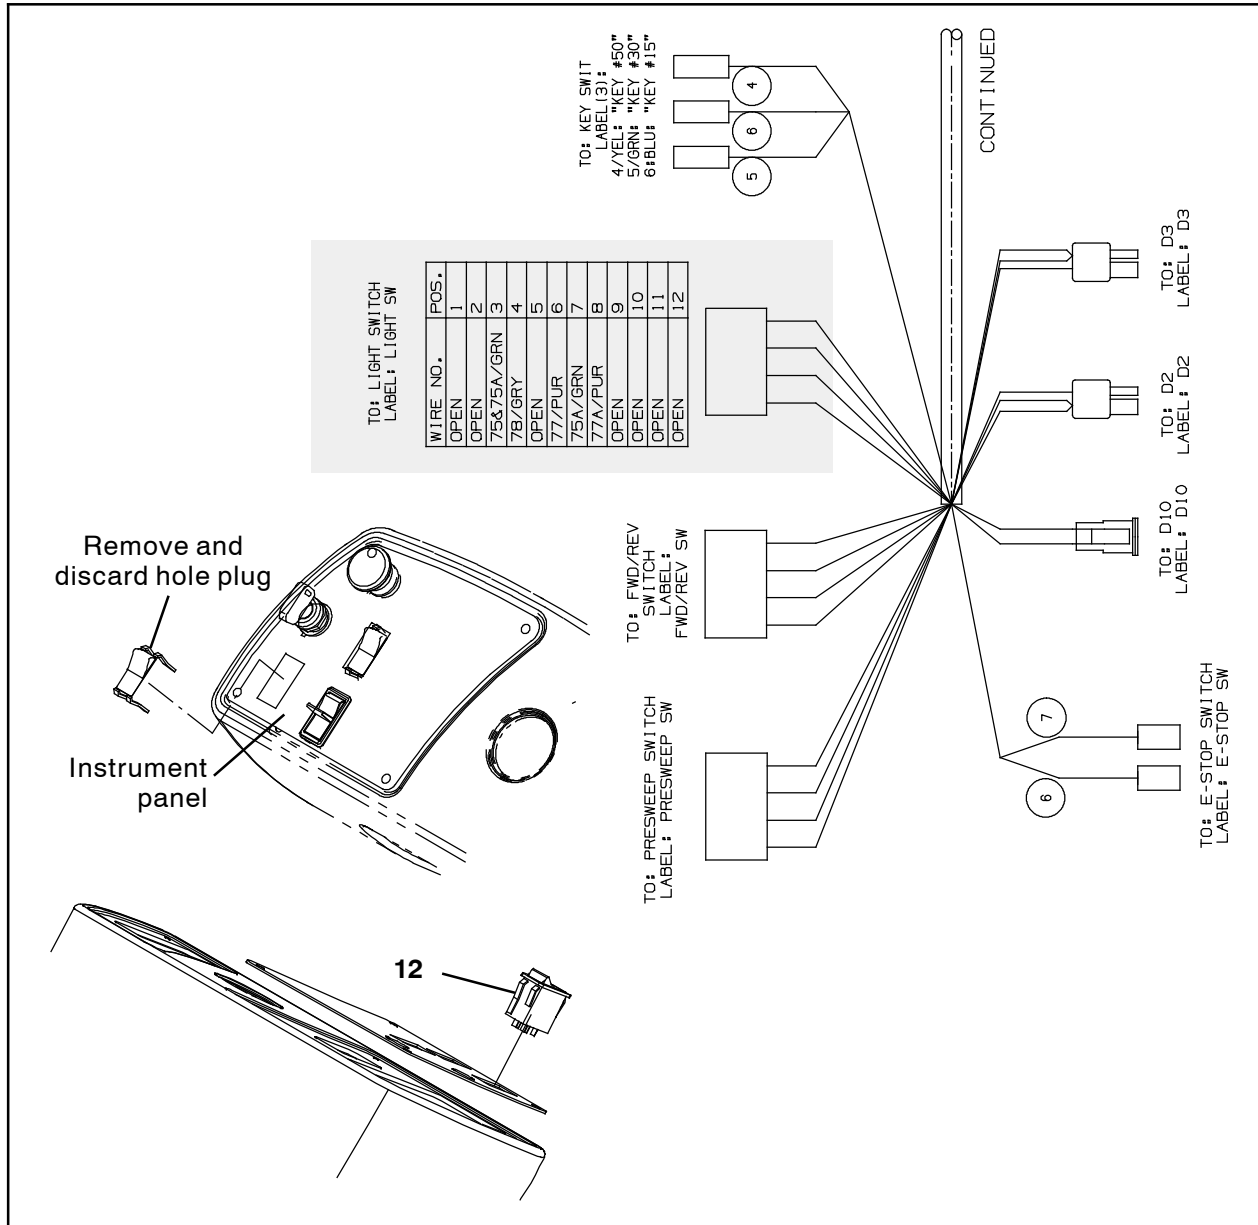

FIG. 1
1. Carefully remove the instrument panel from the machine. Do not break any wire connections. Set the hardware aside. (Fig. 1)
2. Remove the hole plug from the instrument panel. Discard the hole plug. (Fig. 1)
3. Insert the rocker switch (12) into the instrument panel where the hole plug was previously located. (Fig. 1)
4. Connect the main wire harness to the rocker switch (12). (Fig. 1)
5. Reinstall the instrument panel onto the machine. (Fig. 1)